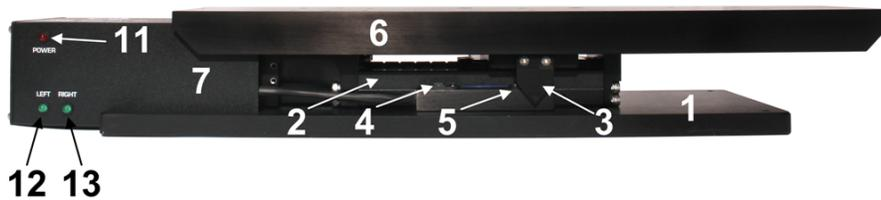
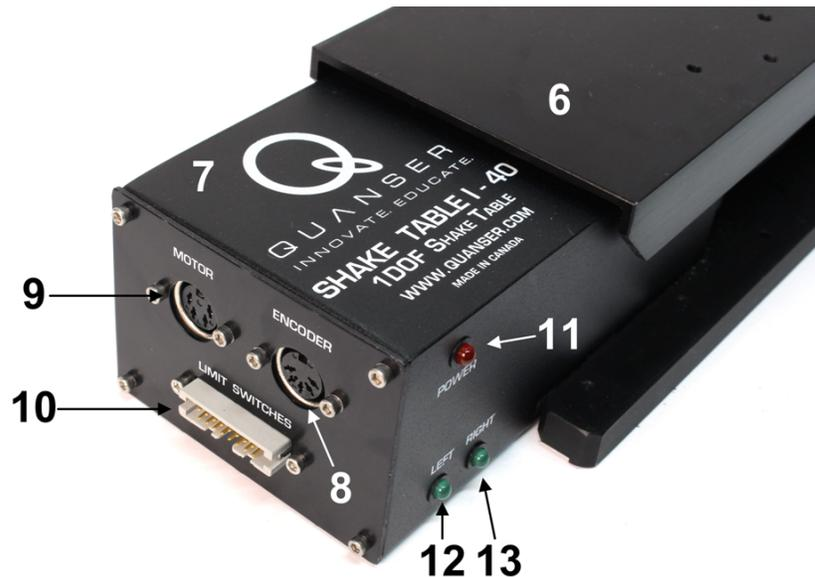

Figure 2.1: Shake Table I-40 components - front view.
Figure 2.2: Shake Table I-40 components - side view
As a quick nomenclature, Table 2.1 provides a list of all the principal elements composing the Shake Table I-40 system. Every element is located and identified, through a unique identification (ID) number, on the Shake Table I plant represented in Figure 2.1 and Figure 2.2.
The *Left* and *Right* proximity sensors are shown in Figure 2.1 with ID #4 and #5, respectively. The *Left* or *Right* limit switch gets triggered when the top stage moves close to the left or right mechanical range. These sensors are used to stop the controller when the table exceeds its stroke. They are also used to calibrate the stage to its center, mid-stroke position.